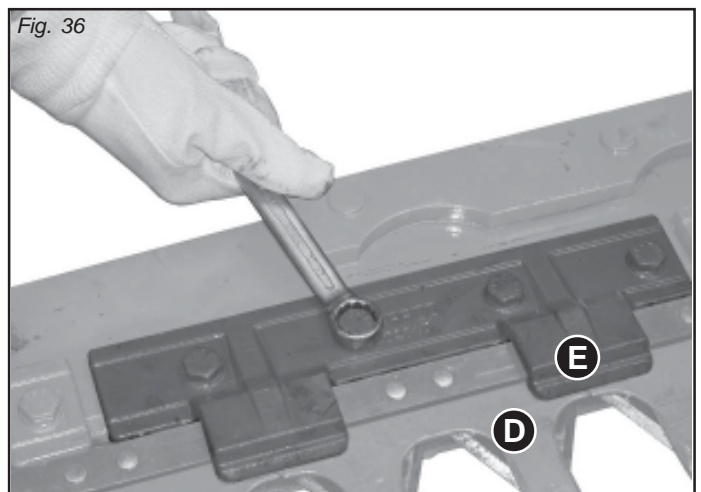

Fig. 36
**At the start of each season it is important to check that the connection between the tooth-holding bar (D, Fig. 36) and the blade guide (E) is correct.**
- unscrew the blade guide (Fig. 36);